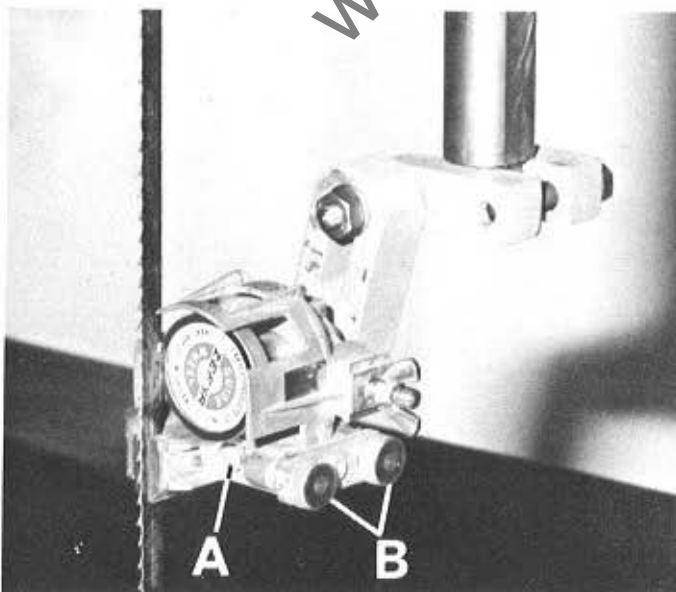

FIG 15
5. Loosen locking screw "A", FIG.15, and set guide blocks just clear of sawblade by adjusting screws "B".